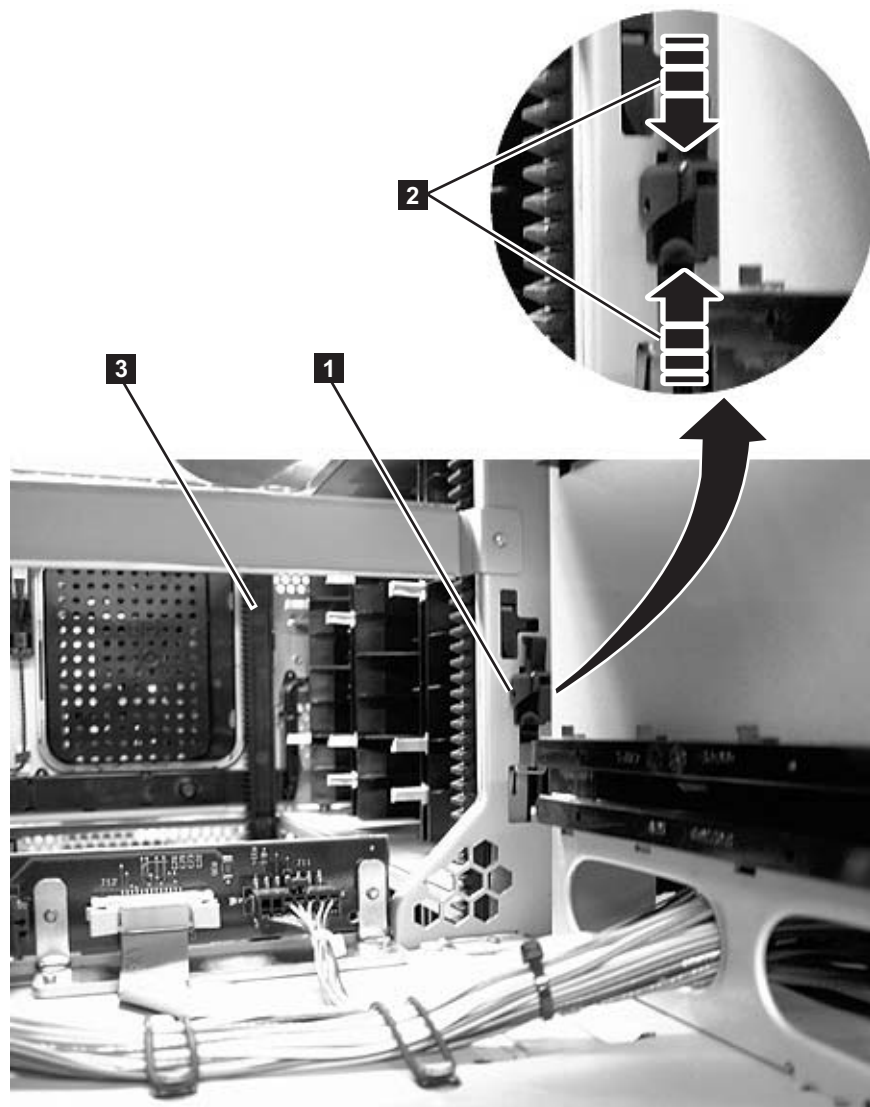

Figure 8-58. Removing a gear rack
4. Slightly push up and pinch the gear rack locking mechanism (**1** in Figure 8-58) to unlock the gear rack. The gear rack is spring-loaded against the tab and will be removed through the bottom of the module.
5. While pinching the gear rack locking mechanism (**2** in Figure 8-58), push the gear rack down then release your hold on the locking mechanism.